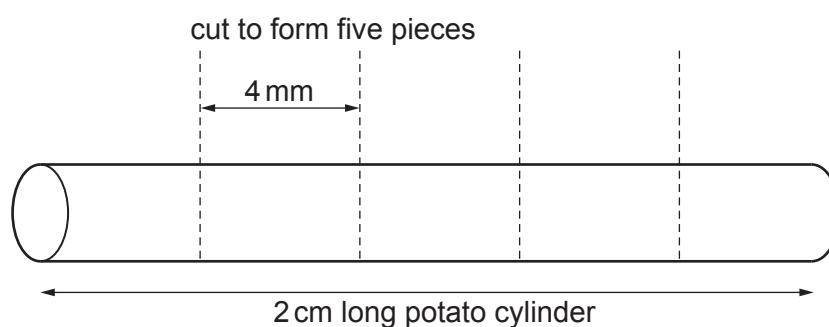

Fig. 1.1
Step 3 Cut a potato cylinder into five equal pieces. Each piece should be approximately 4 mm in length, as shown in Fig. 1.1.